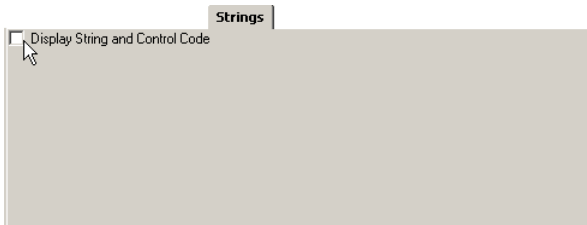

Figure 5-19. Strings Tab
- The *Strings* tab (Figure 5-19) contains the field that switches on/off the output alphanumeric code describing surveyed points on the screen.